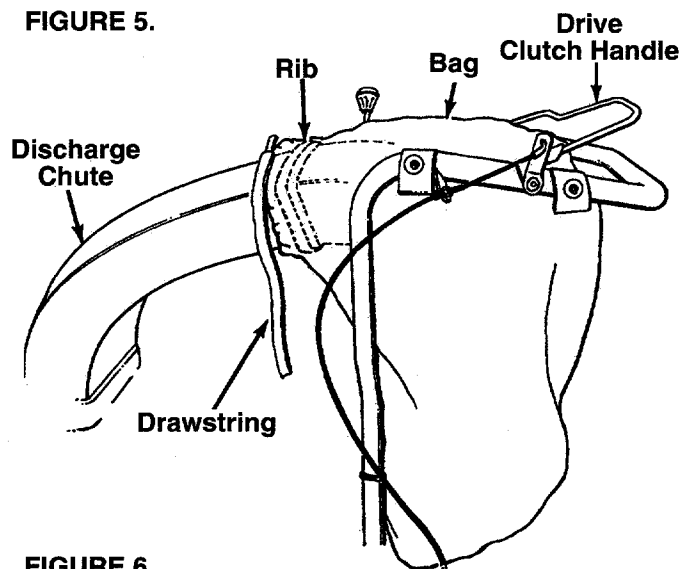

FIGURE 6.
1. Place bag inside of handle assembly. Slip the opening on the bag over the discharge chute, making certain it is over the rib on the discharge chute. See figure 6.